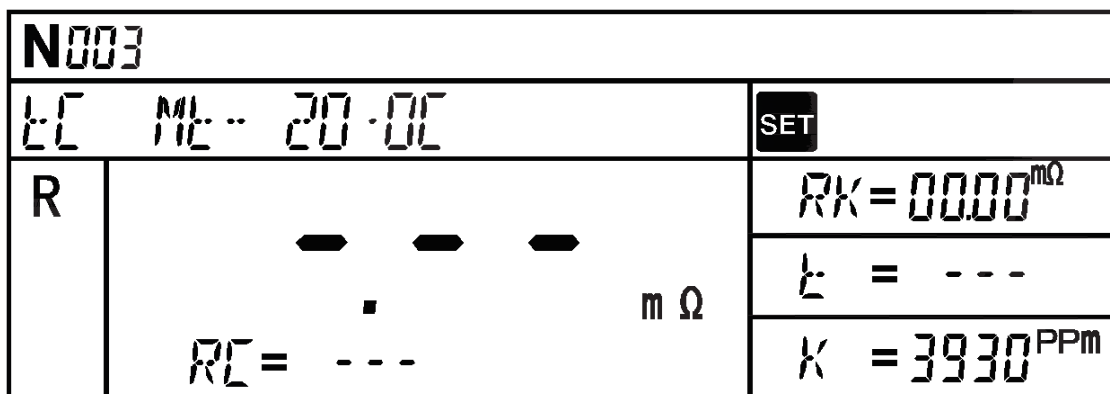

图4-8温度补偿测量功能设定画面，当前可设定的参数呈闪动状态
- In temperature compensation mode, press "SET/RCL" button to enter configuration with set symbol on (Fig. 4-8). Short press "SET/RCL" to switch between parameters.